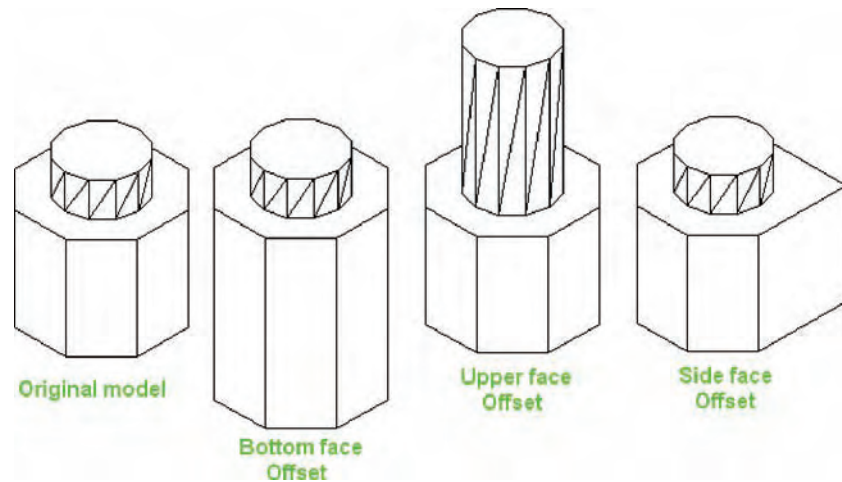

Fig. 18.9 Third example – **Offset faces** tool
Fourth example – **Offset faces** tool (Fig. 18.9)
1. Construct the 3D solid drawing shown in the left-hand drawing of Fig. 18.9 from a hexagonal extrusion and a cylinder which have been united using the **Union** tool.
The results are shown in Fig. 18.9.